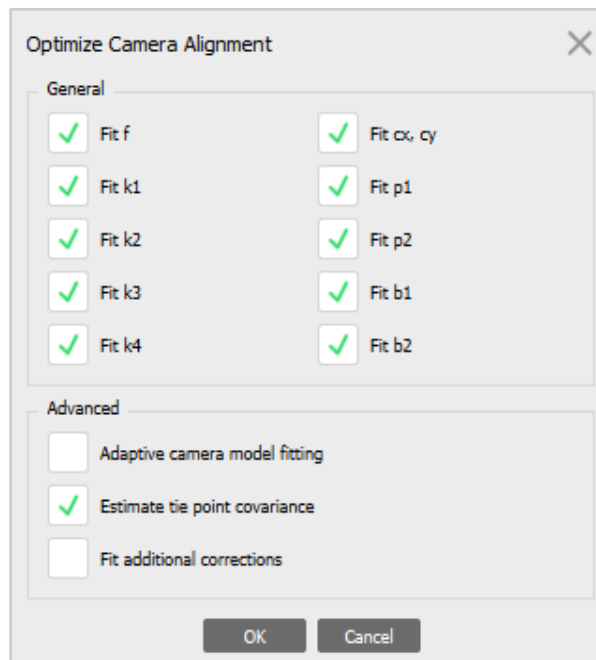

Figure 25. Optimize Camera Alignment window with settings for optimizations described in step 11.
11. Optimize cameras again using the same instructions as step 2, but change the settings according to Figure 25 and click `OK`.